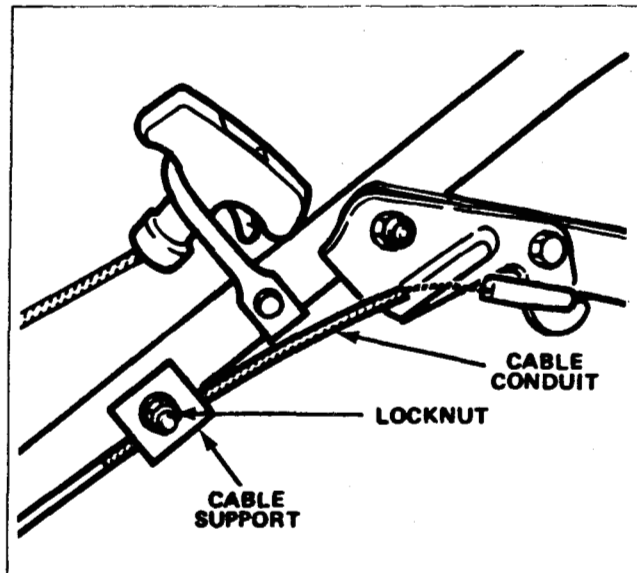

Figure 16
3. **ADJUST CABLE CONDUIT** - Loosen the locknut on cable support. See Figure 16. Insert a 3-5 mm (1/8" - 3/16") object between the brake lever and the handle. Adjust the cable conduit until the slack is removed, then tighten the locknut.